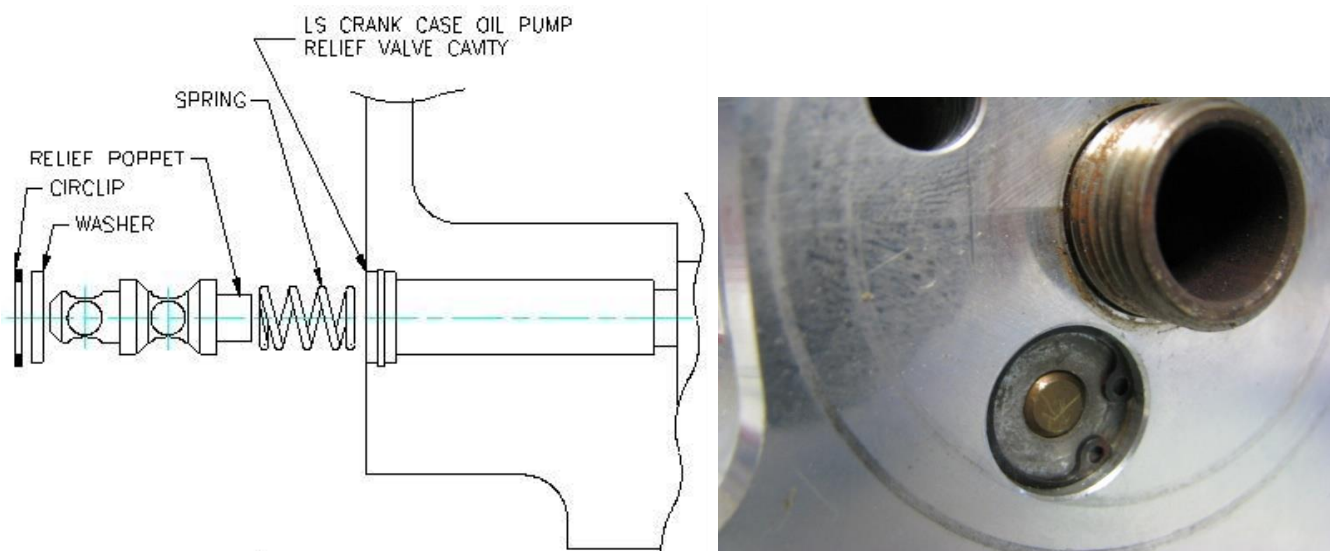

Figure 83 – Oil Pressure Relief Valve
- The oil pressure relief valve assembly is located underneath the oil filter / oil cooler adaptor on the side of the crankcase as shown in Figure 83.